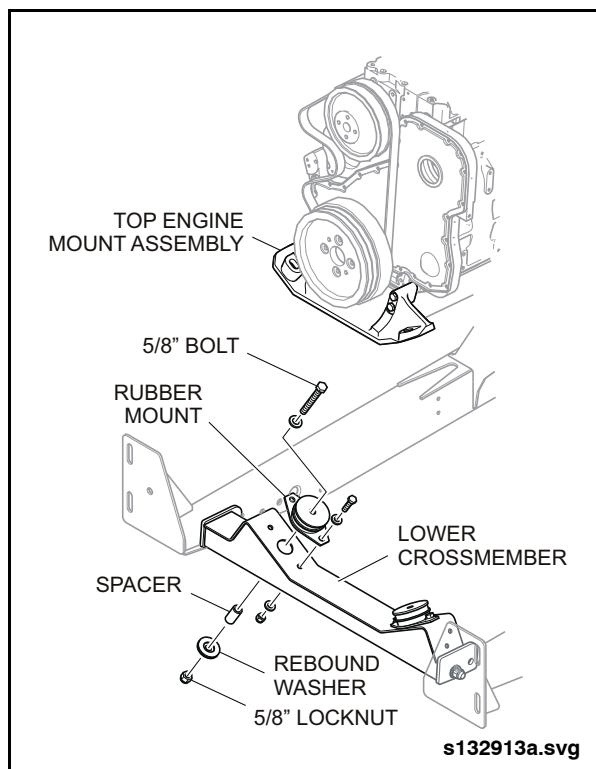

Fig. 4-8: Front Engine Mounts
5. Remove the 5/8" bolt, flat washer, engine rebound washer, spacer, and lock nut that secure the rubber mount to the top engine mount assembly and lower crossmember assembly. See "Fig. 4-8: Front Engine Mounts" on page 11.